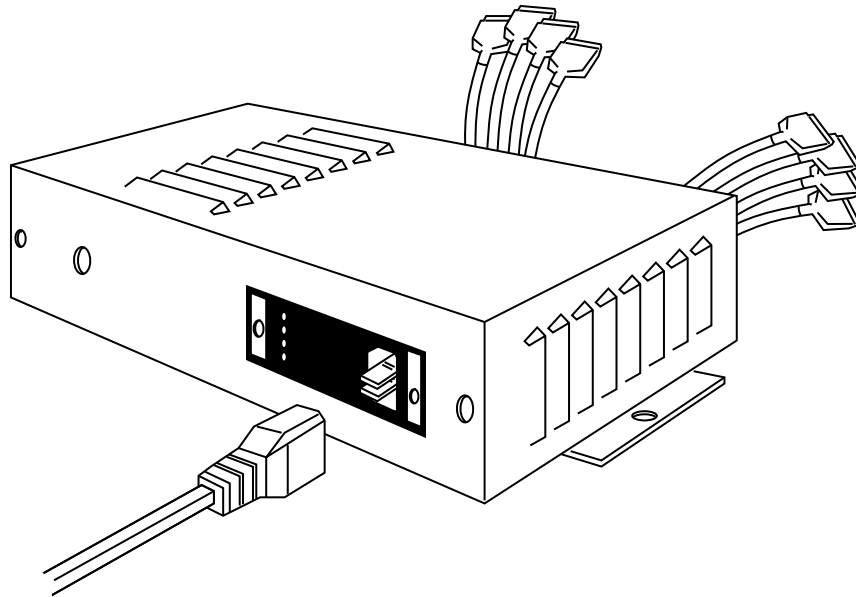

FIGURE 8-19. Plug the AC Power Cord into the Back of the Power Supply
7. Plug the AC power cord into the back of the power supply already mounted into the cabinet. See Figure 8-19.